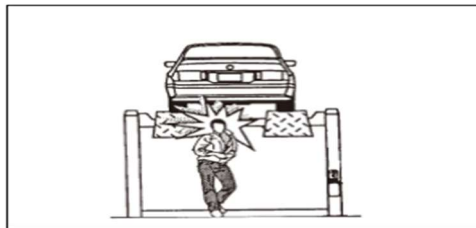

Figure 34 - Impact risk
- **When the height of the lifting platform is less than 1.75 meters; relevant personnel should avoid hitting their heads when entering the platform. (Figure 34)**